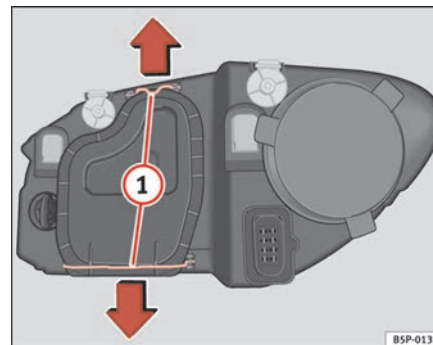

Fig. 181 Dipped head-lights
- Remove the loops ⇒ page 257, fig. 181 ① in the direction of the arrow and remove the cover.